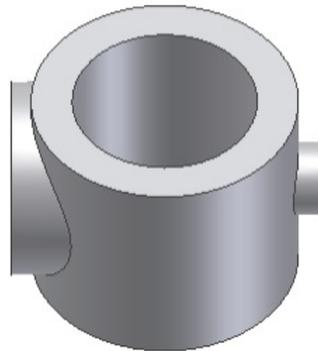

Figure 7-80 Model after creating the second join feature
- b. Define two new offset work planes to create two cylindrical join features on the cylindrical face of the base feature, refer to Figure 7-80.
5. Invoke the **Extrude** tool and then extrude the sketch using the **To Next** option from the **Extents** area. The model after creating the second join feature is shown in Figure 7-80.